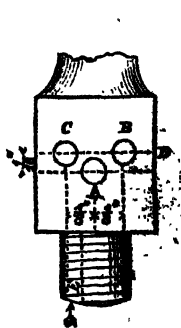

FIG. 34. (Full size.)
* The plan and elevation are drawn to 3-in. scale, or quarter size, and the details to 6-in. scale, or half size. Fig. 34 showing steam-ports in standard is engraved full size.
The standards (Fig. 32) should be made now. It will be found that the easiest way of making these will be in the form of two pillars or columns, which can easily be turned out of a piece of brass or iron rod $\frac{3}{8}$ in. square. The base should be $\frac{1}{8}$ in. square, with a smaller end or stud projecting, $\frac{3}{8}$ in. diameter and $\frac{1}{4}$ in. long (these are to be fastened into the top of the boiler); the square part must extend $\frac{3}{8}$ in. up the pillar, when it may be turned down to a short distance from the head, which must be $\frac{3}{8}$ in. square. These columns must each be $2\frac{1}{2}$ in. from the under side of the shoulder to the centre of the hole for the crank-shaft. Care must be taken to make the faces of the square part exactly at right angles with the hole in the head. Now divide one of the faces of one of these pillars into two equal parts by means of a centre-line running through the middle of the column (Fig. 34). At a distance of $\frac{3}{8}$ in. from the shoulder drill a small hole, A, which will just admit of the insertion of the pin F, which was fixed in the cylinder-face. Then draw another line at right angles $\frac{1}{16}$ in. above this hole, and on this line $\frac{1}{4}$ in. from the centre mark two holes, right and left respectively, each of which is to be drilled as far as the centre